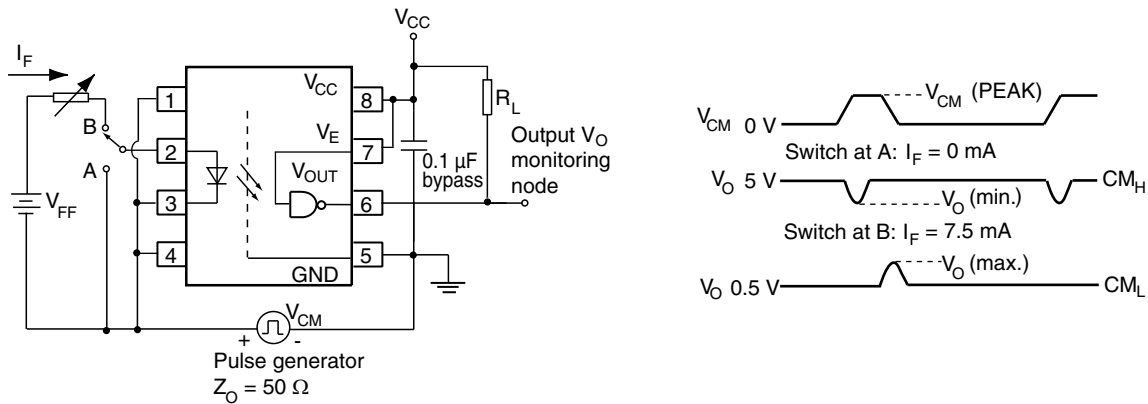

Fig. 5 - VOW2611 Test Circuit for Common Mode Transient Immunity
- (5) VOW2611 CMTI test circuit refer to figure 5.